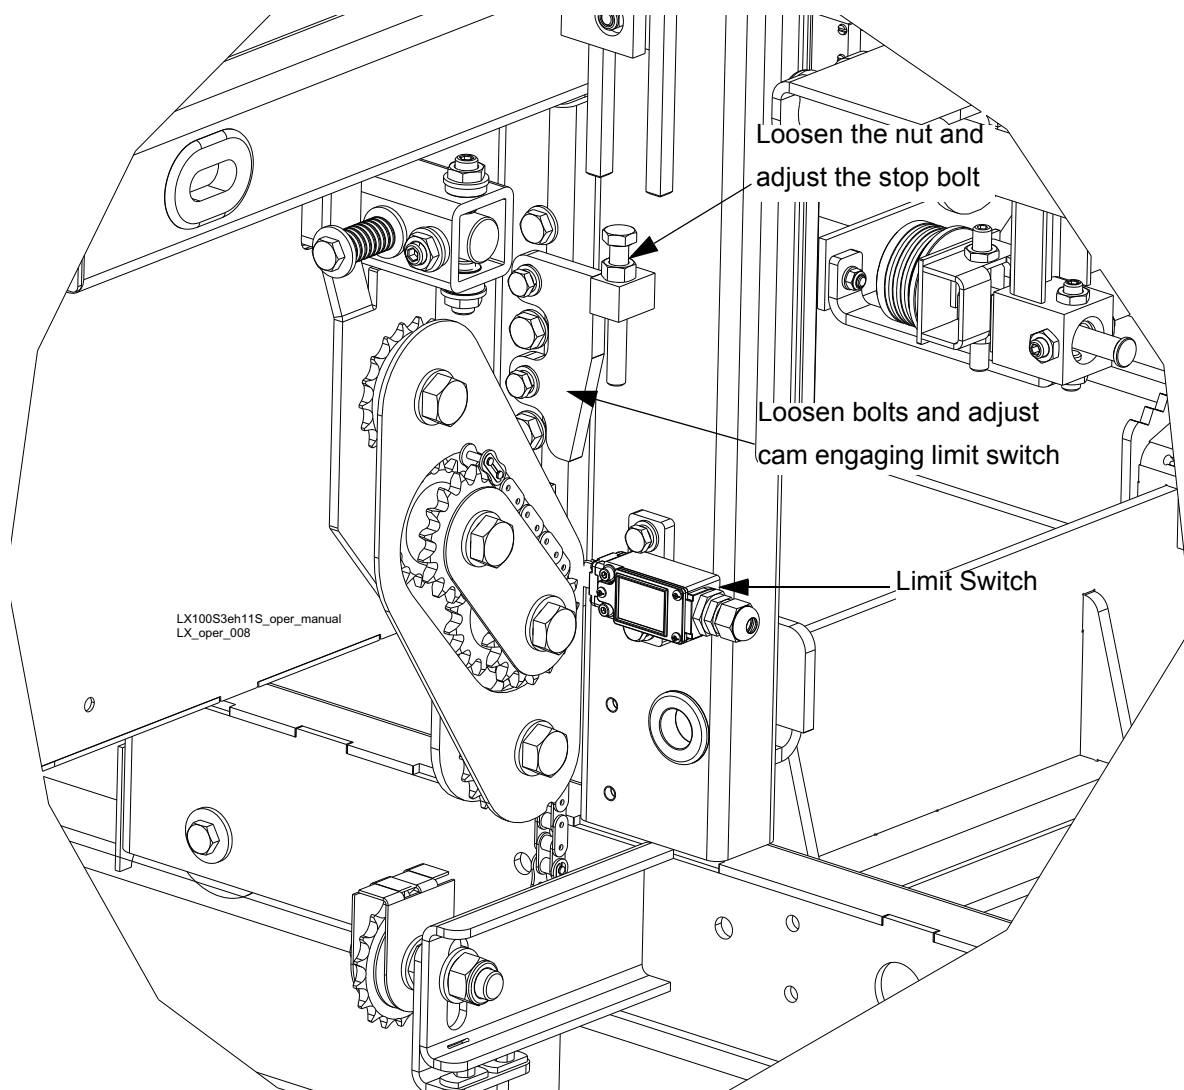

FIG. 2-8
- Cam engaging the limit switch and/or stop bolt - See Figure 2-8.
See Figure 2-8. Adjust the cam (A) engaging the limit switch (B) as well as the saw head stop bolt (C) so that the saw head stops moving at its lower travel limit - at the height of 25 mm above the